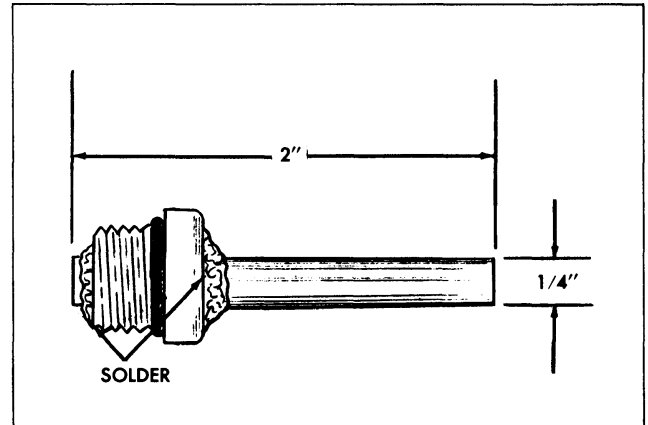

Fig. 22-68 Filler Plug Adapter
- b. Install 2 inch length of metal tubing (1/4" O.D. x 3/16" I.D.) into center of filler plug and solder tubing on both sides of filler plug to form air tight connection (Fig. 22-68).